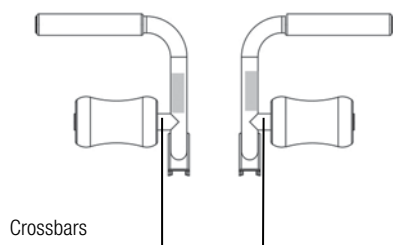

Fig. 1
2. Then attach Foam Pads on the Crossbars as shown in Fig. 1. Let dry before beginning to exercise with the Wing Attachments.
3. Insert the 2 Short Hitch Pins through the holes on the Tri-Grip Shaper Bar Brackets and the hole on the Rails as Shown in Figure 1. Make sure to securely attach each Tri-Grip Shaper Bar to each side of the frame before using.
2. With the small end of the Ab Crunch Board closest to the Handle Grip securely attach the appropriate Handle with 4 Flanged Hex Bolts, Spring Washers and Flat Washers using Hex Wrench provided. See Fig. 1 below.